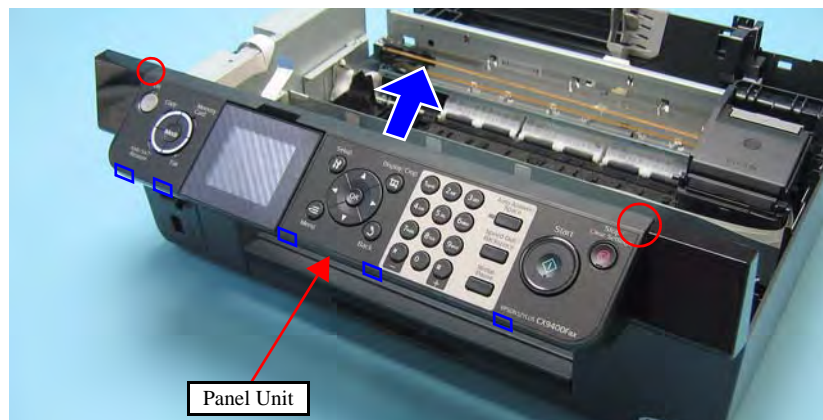

Figure 4-22. Removing the Panel Unit (1)
- When installing the Panel Unit to the Lower Housing, make sure to match the ribs ○ (x2) of the upper side and the ribs □ (x5) of the lower side of the Panel Unit with the dowels of the Lower Housing as shown in Figure. 4-22.